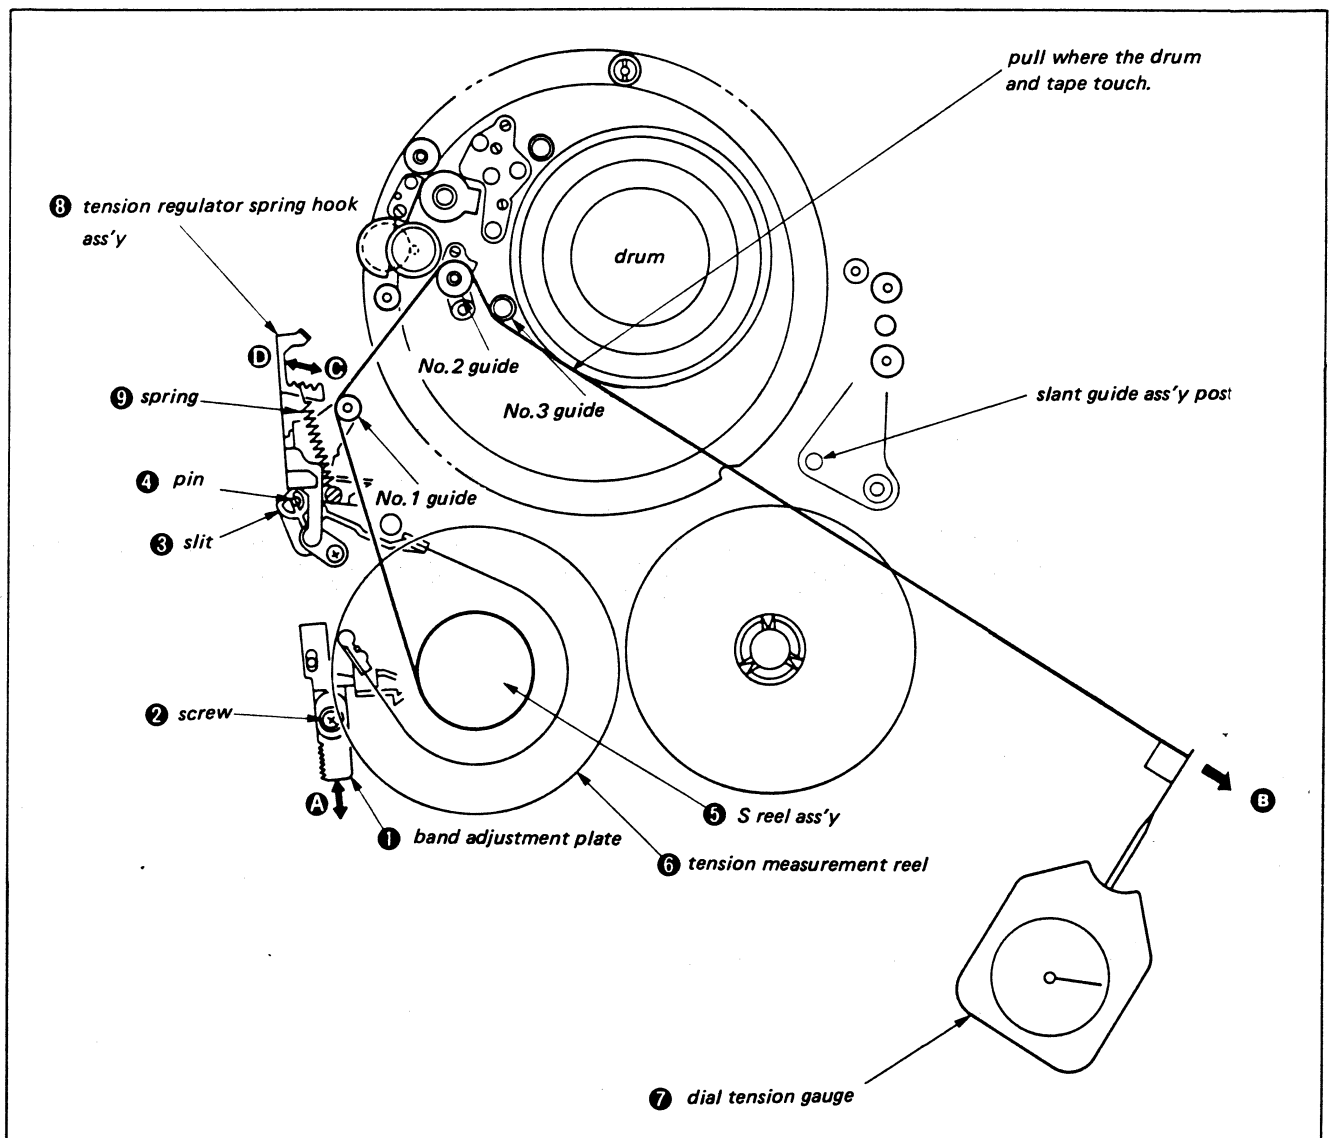

Fig. 3-50.
- 4) Loosen band adjustment plate ① screw ② and adjust as shown by arrow **A** so that the tension regulator arm assembly slit ③ and tension regulator arm assembly pin ④ are positioned as shown, and tighten screw ②.
- 5) Place tension measurement reel (Ref No. J-7) ⑥ on the S reel table assembly ⑤ and line up with No. 1 guide, No. 2, No. 3 guide and the drum.
- 6) Pull dial tension gauge (Ref No. J-6) ⑦ in the direction of arrow **B** and hook spring ⑨ onto the tension regulator spring hook assembly ⑧ so that the value is $12.5 \pm 1g$, as shown. (Fig. 3-50)